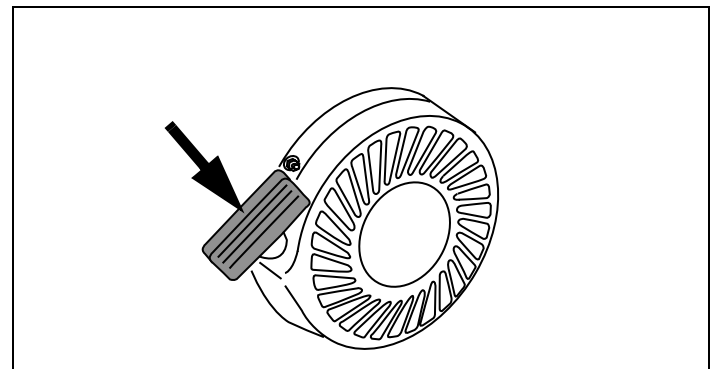

Figure 29. Starter Cord Handle
4. Grasp starter cord handle. See Figure 29.
5. Grasp starter cord handle. See Figure 29 on page 15. Afterward, continue reading instructions below.